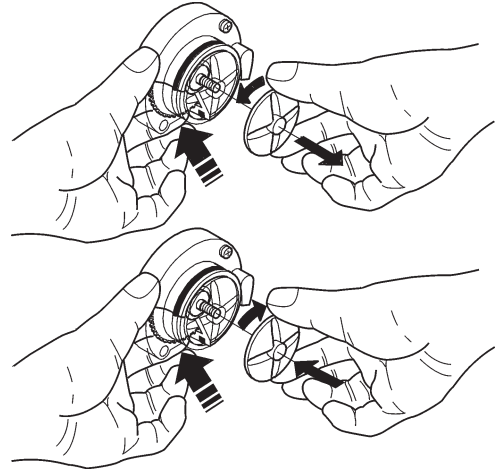

Fig. 10
- in order to remove the impellers, block the disk fitted on the mixer shaft with a finger (see Fig. 10), then rotate the impeller to undo it.